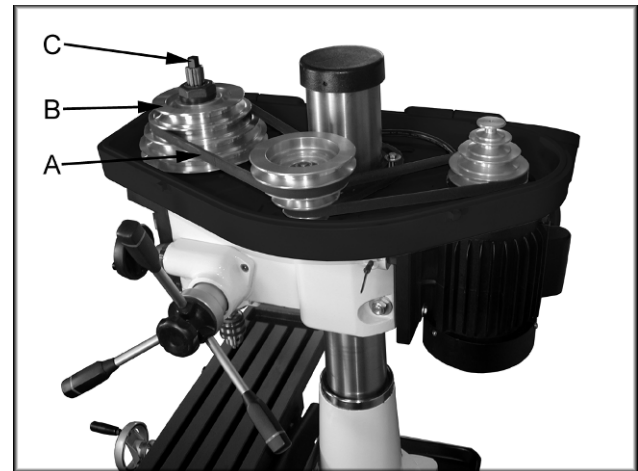

Fig. 12
4. Arrange the v-belts (A, Fig. 12) on the pulleys (B, Fig. 12) for the desired speed according to the speed chart (H, Fig. 11) on the belt cover.
3. Hold the spindle pulley (B, Fig. 12) to keep the pulley from moving while loosening the drawbar (C, Fig. 12) with a wrench.